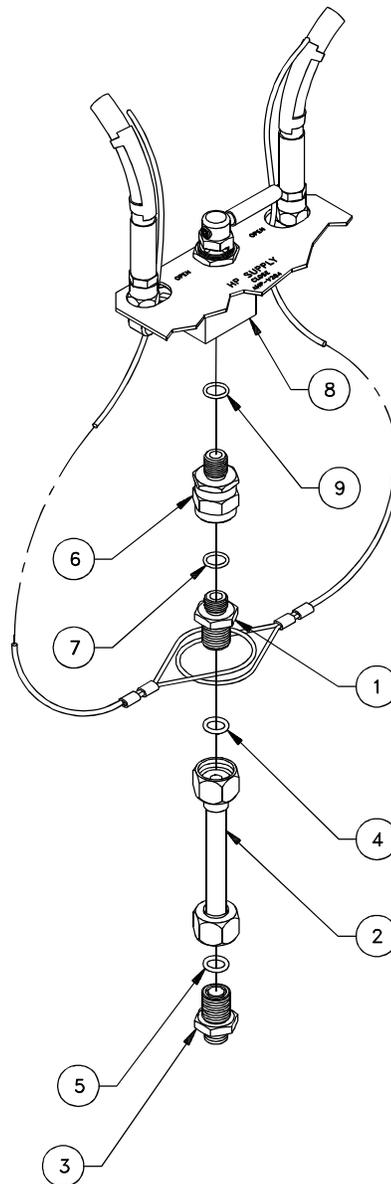

Figure 6-4. Filter Assembly (F-022)
6.5.2.5 Filter Assembly (F-022) Removal and Replacement (Figure 6-4).